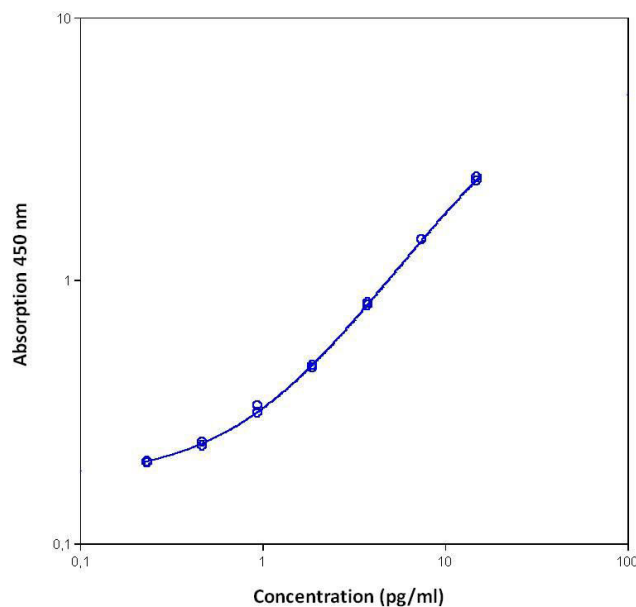

Fig. 10 Representative standard curve for Human IL-17A High Sensitivity ELISA Kit. Human IL-17A was diluted in serial 2-fold steps in Sample Diluent.
- A representative standard curve is shown in Figure 10.